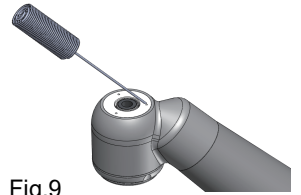

Fig.9
3. If spray nozzle is blocked with debris clean the spray nozzle with the nozzle cleaner needle. (See Fig.9)